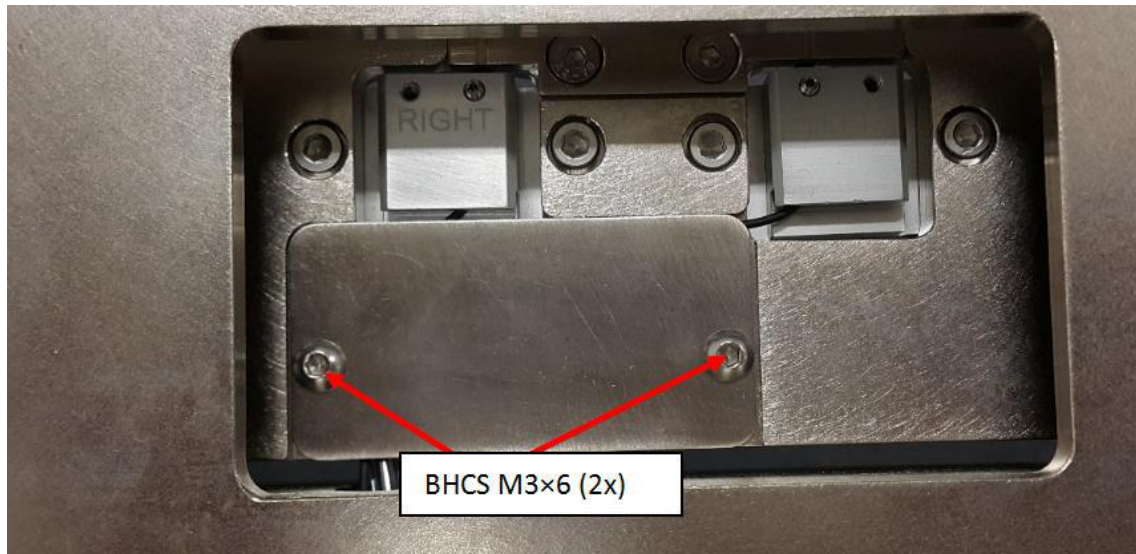

Figure 29 PIP Sensor Cover
8. Close Optical PIP Sensor Cover with BHCS M3×6 (2x) as shown in Figure 29.